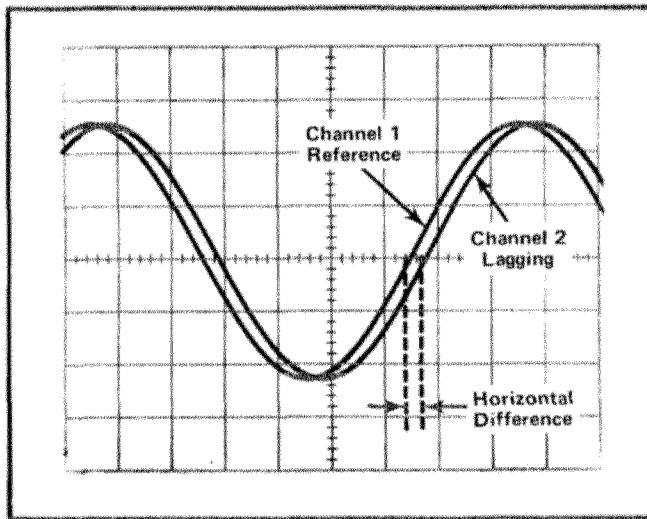
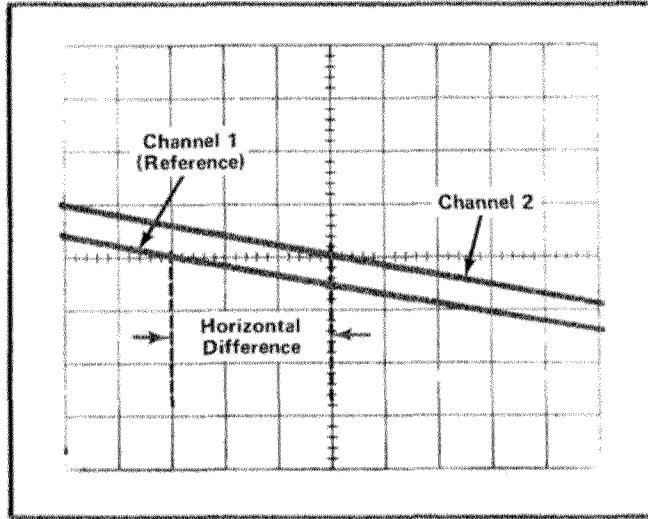

Fig. 2-4. Measuring phase difference between two signals.
Fig. 2-5. High resolution phase measurement using time-base magnifier.
8. Adjust the time-base Variable Time/Div control until one cycle of the reference signal occupies exactly eight horizontal divisions between the second and tenth vertical lines of the graticule (see Fig. 2-4). Each division of the graticule represents 45° of the cycle ($360^\circ \div 8$ divisions = 45° /division). The sweep rate can now be stated in terms of degrees as 45° /division.
EXAMPLE: Assume a horizontal difference of 0.3 division with a sweep rate of 45° /division as shown in Fig. 2-4.
EXAMPLE: If the sweep rate is increased 10 times by the Magnifier, the magnified sweep rate is $45^\circ/\text{division} \div 10 = 4.5^\circ/\text{division}$. Fig. 2-5 shows the same signals as used in Fig. 2-4 but with the Magnifier set to X10. With a horizontal difference of 3 divisions, the phase difference is: